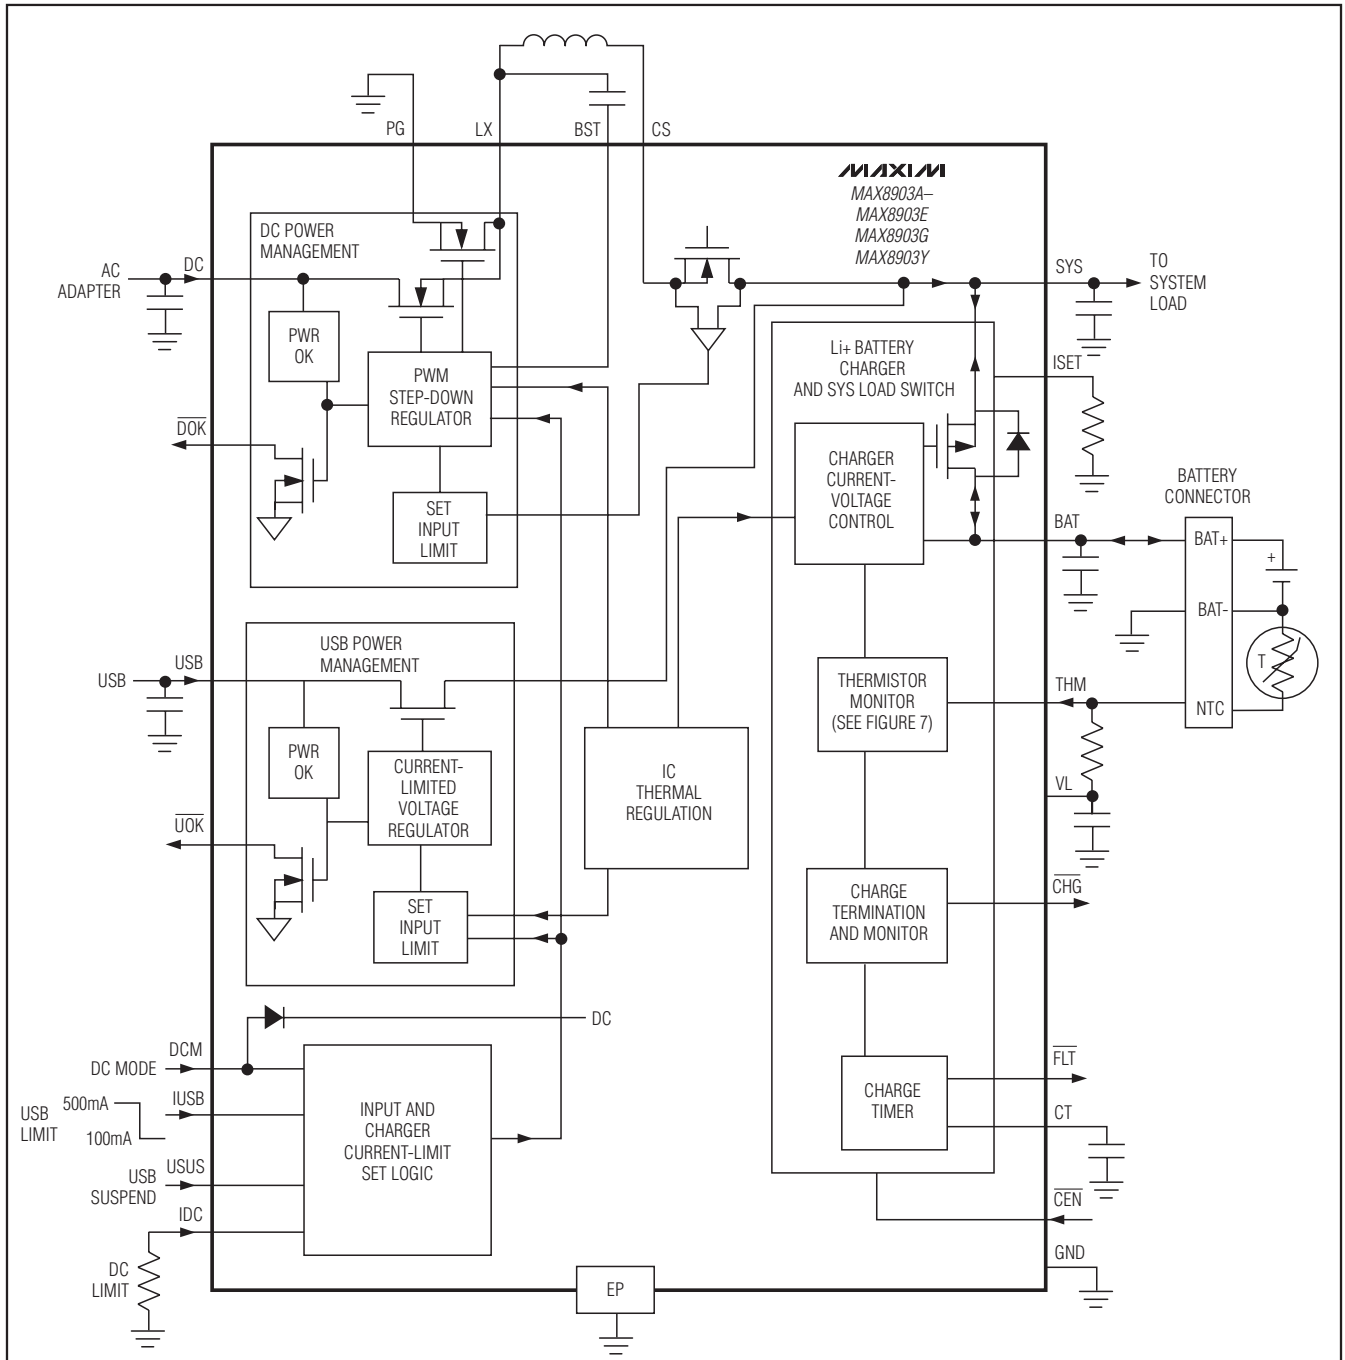
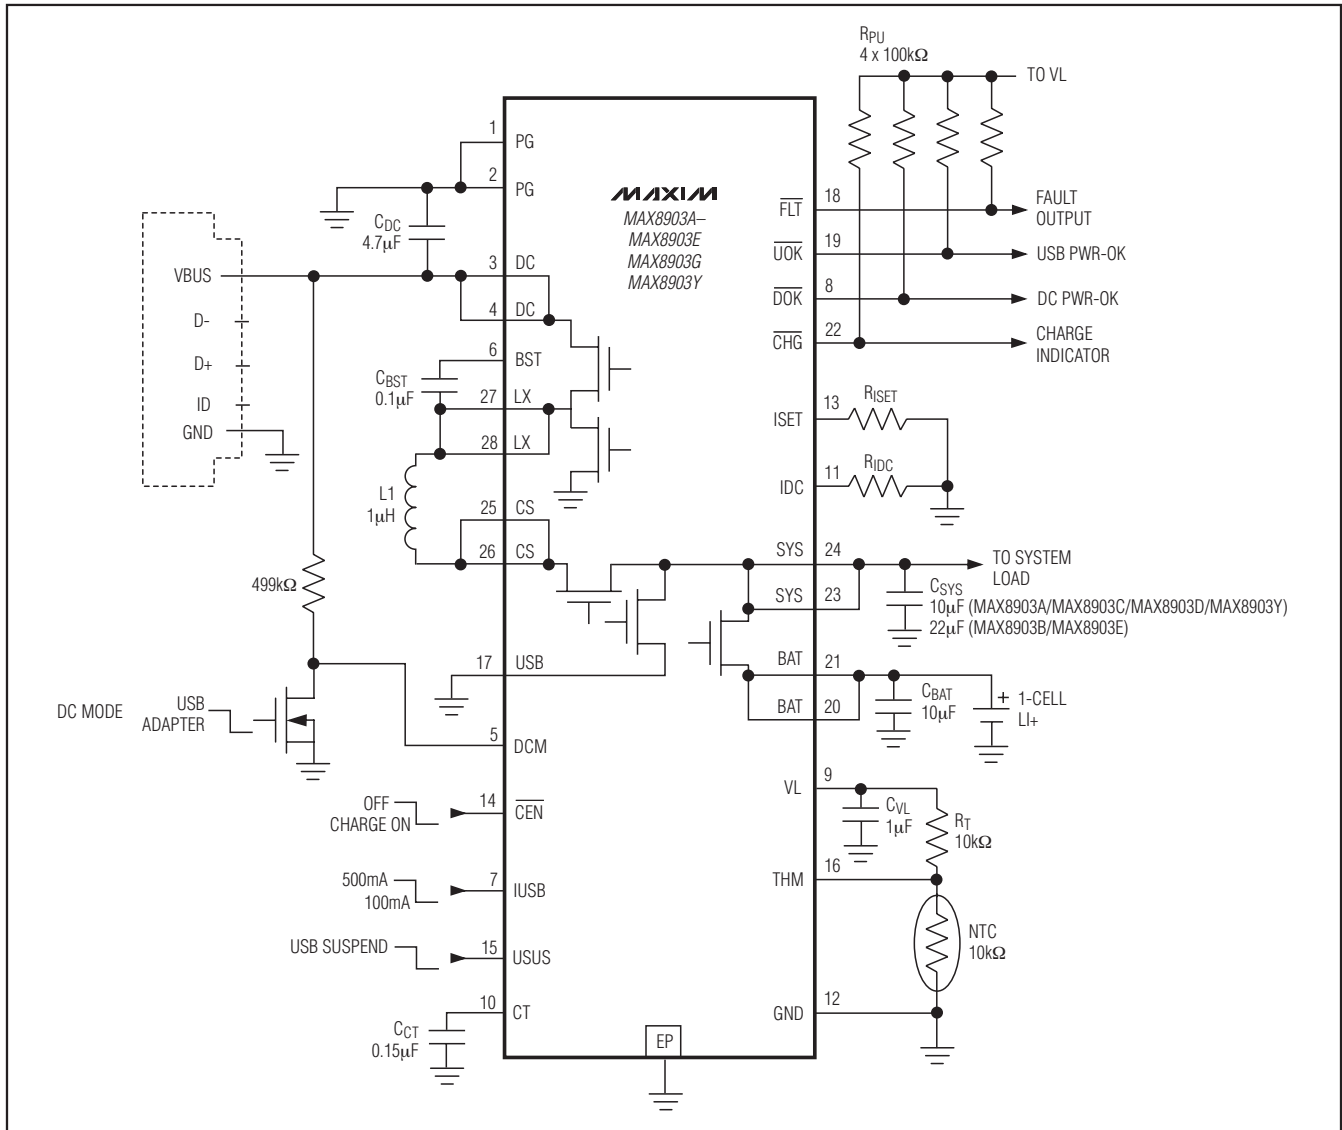

Figure 1. Functional Block Diagram
Figure 3. Typical Application Circuit Using a Mini 5 Style Connector or Other DC/USB Common Connector
As shown in Figure 1, the IC includes a full-featured charger with thermistor monitor, fault timer, charger status, and fault outputs. Also included are power-OK signals for both USB and DC. Flexibility is maintained with adjustable charge current, input current limit, and a minimum system voltage (when charging is scaled back to hold the system voltage up).
The DCM pin has an internal diode to DC as shown in Figure 1. To prevent current from flowing from DCM through the internal diode and to the DC input, DCM
cannot be driven to a voltage higher than DC. The circuit of Figure 3 shows a simple MOSFET and resistor on DCM to prevent any current from flowing from DCM through the internal diode to DC. This circuit of Figure 3 allows a microprocessor to drive the gate of the MOSFET to any state at any time.
An alternative to the simple MOSFET and resistor on DCM as shown in Figure 3 is to place a 1MΩ resistor in series with the DCM input to the microprocessor. The microprocessor can then monitor the \overline{DOK} output and make sure that whenever \overline{DOK} is high DCM is also low. In the event that DCM is driven to a higher voltage than DC, the 1MΩ series resistance limits the current from DCM through the internal diode to DC to a few μA.
***There is an internal diode from DCM (anode) to DC (cathode) as shown in Figure 1. If the DCM level needs to be set by a μP , use a MOSFET for isolation as shown in Figure 3.